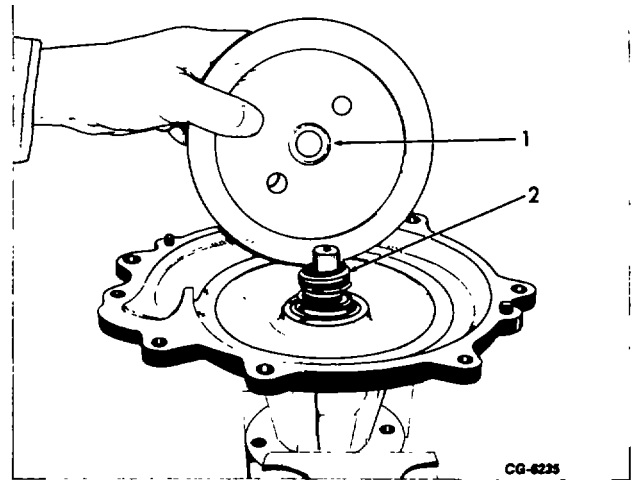

Figure 17. - Water Pump Seal
2. Pry out the ceramic seat and boot (1, Fig. 17) from the impeller and discard it, along with the water pump seal (2) as shown.